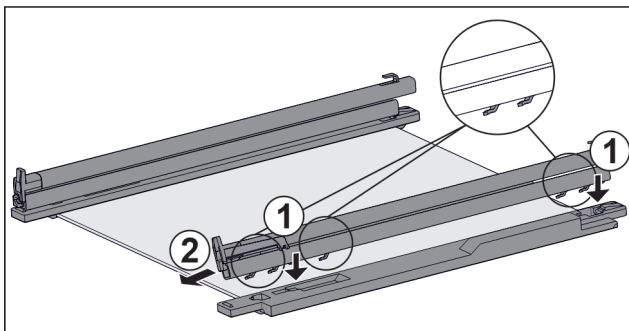

Fig. 110 Glass shelf with rails and retaining parts
- ▶ Place rail hooks onto the openings of the **left** retaining part. Fig. 110 (1)
- ▶ Push rail forwards. Fig. 110 (2)
- ▶ Place rail hooks onto the openings of the **right** retaining part. Fig. 110 (1)